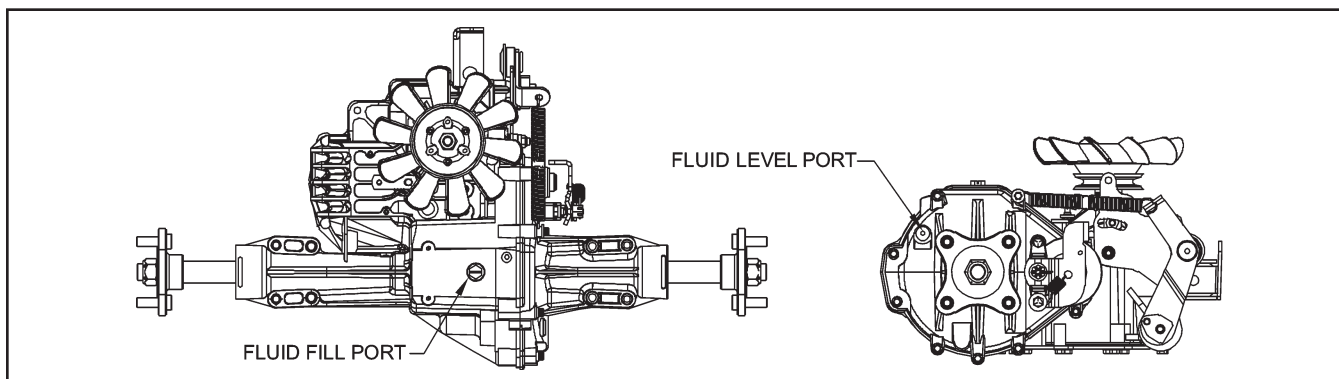

Figure 7. -1500 and -1700 Fluid Fill and Level Ports
2. Check oil level See Figure 7, Page 11.
1. With the bypass valve open and the engine running, slowly move the directional control in both forward and reverse directions 6 to 10 times, as air is purged from the unit, the oil level will drop and bubbles may appear in the oil. After stopping the engine, add oil, as necessary. Fill to the level outlined in Figure 7, Page 11.
If you overfill the transaxle while the unit is "cold", it may overflow as it reaches normal operating temperatures. The oil level should not be above the level shown in figure 7, Page 11. This will allow the space needed for the oil to expand as it warms up.